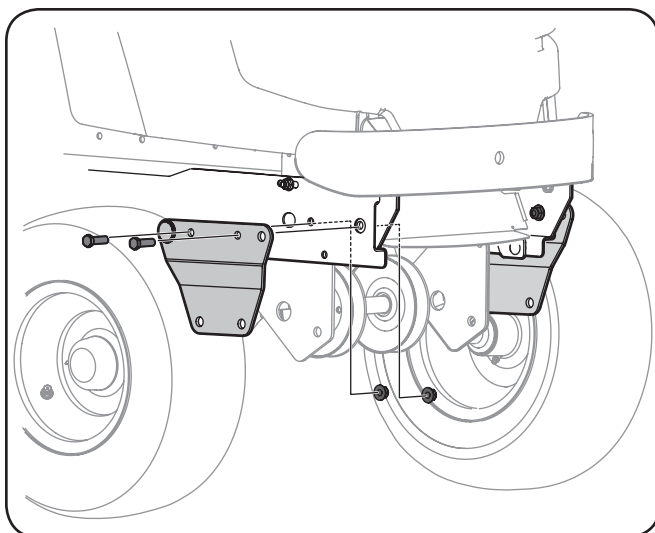

Figure 3-2
2. Using the four hex screws and flange lock nuts, secure the LEFT and RIGHT lift hanger brackets and the bumper to the frame as shown in Figure 3-2.